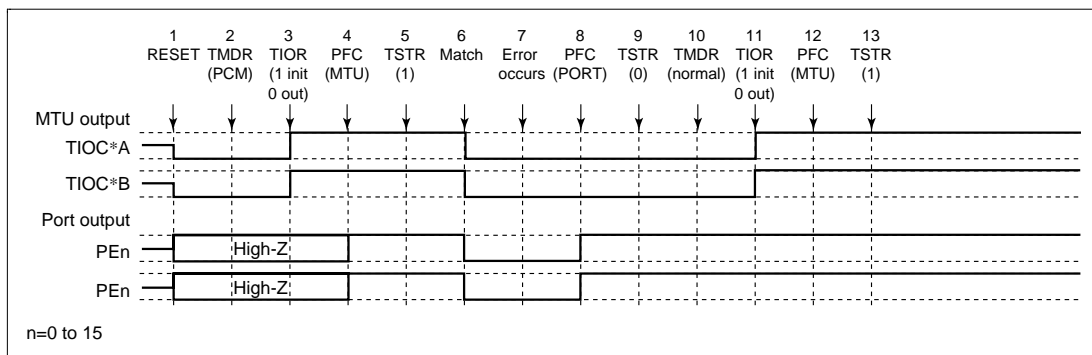

Figure 12.112 Error Occurrence in Phase Counting Mode, Recovery in Normal Mode
(17) Operation when Error Occurs during Phase Counting Mode Operation, and Operation is Restarted in Normal Mode: Figure 12.112 shows an explanatory diagram of the case where an error occurs in phase counting mode and operation is restarted in normal mode after re-setting.
1 to 9 are the same as in figure 12.112.